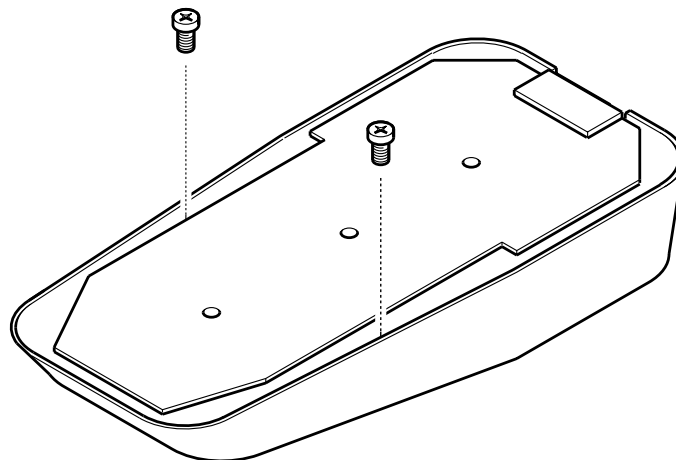

Figure 15: Screw removal
3. Figure 15 Remove the C-assembly mounting screws.